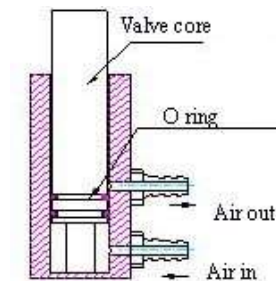

Fig. 11 Valves
- Loosen the locking screw and remove the tray, take out the valve core then you can find the rubber ring. (fig.11)